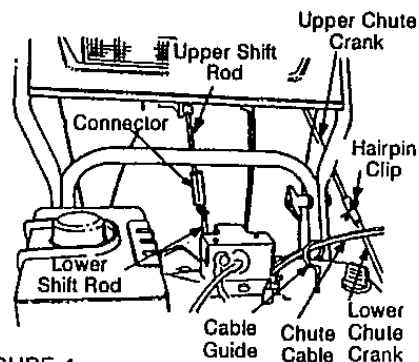

FIGURE 4
- Slide the shift rod connector down over the end of the lower shift rod. See Figure 4. Tap the connector until it locks on the lower shift rod.
- Remove the hairpin clip from the end of the upper chute crank. Slide the upper chute crank into the lower chute crank. Align the holes, and secure with hairpin clip. See Figure 4.
- If not already attached, slip the cables that run from the handle panel to the chute into the cable guide located on top of the engine. See figure 4.